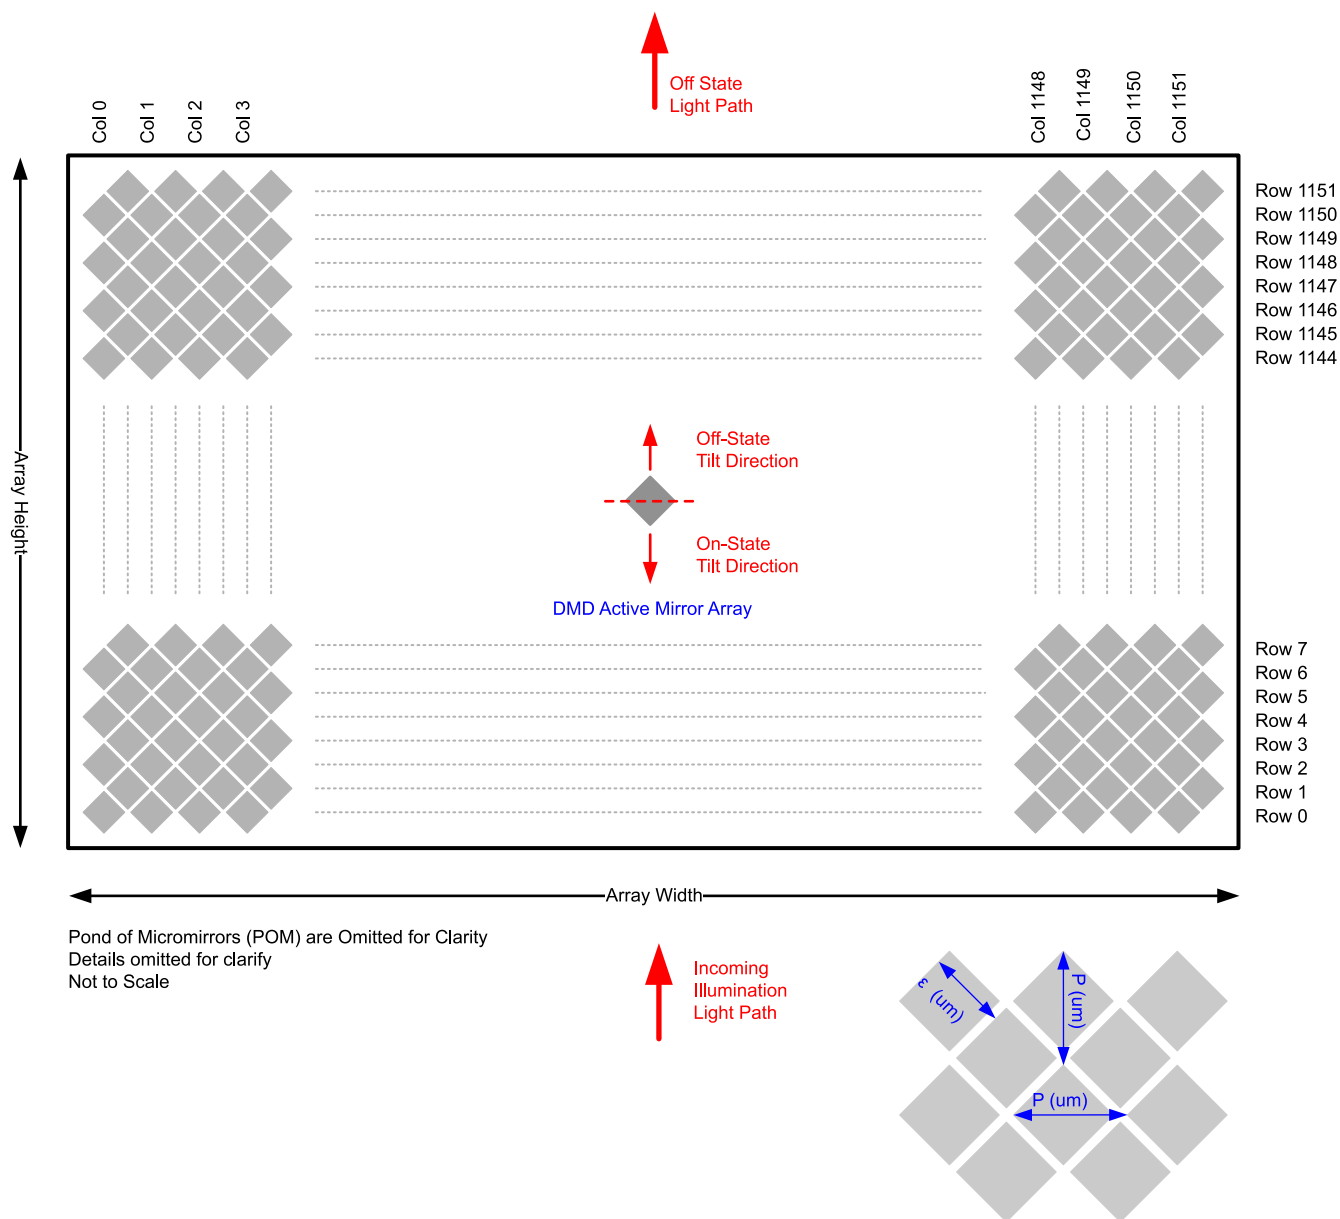

图 6-13. Micromirror Array Physical Characteristics
- (1) See 图 6-13
- (2) The structure and qualities of the border around the active array includes a band of partially functional micromirrors called the POM. These micromirrors are structurally and/or electrically prevented from tilting toward the bright or ON state, but still require an electrical bias to tilt toward OFF.
The DLP5531A-Q1 Automotive DMD consists of 1,327,104 highly reflective, digitally switchable, micrometer-sized mirrors organized in a two-dimensional array. As shown in Figure 6-13, the micromirror array consists of 1152 micromirror columns  $\times$  1152 micromirror rows in a diamond pixel configuration with a 2:1 aspect ratio.